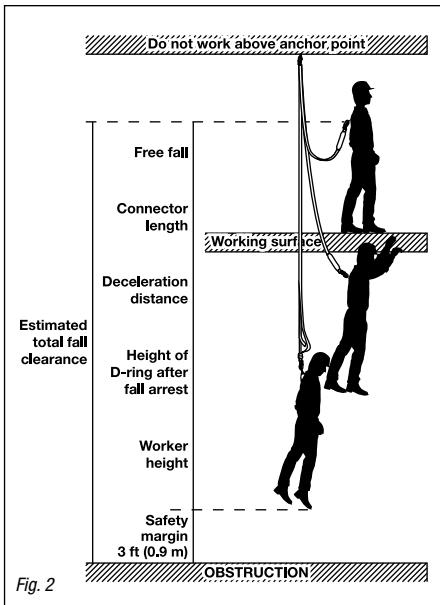

Fig. 2
- 3.2.3 Every anchorage point must be selected with care. The anchorage point location, in combination with the lanyard, should never permit a free fall of more than 1.8 m (6 ft.) (*Figure 2*). Consult local, state, federal and provincial regulations as some jurisdictions require a maximum free fall distance less than 1.8 m (6 ft.). Always check for obstructions below the work area to make sure that the
- 3.3.3 There must be sufficient clearance beneath the working area or potential fall path to arrest the fall prior to striking any obstruction or level below. Ensure to incorporate a deceleration distance as per *Figure 2* in the calculation of the estimated total fall distance
- 3.3.5 Ensure to incorporate all deceleration distances as per *Figure 2* in the calculation of the estimated total fall distance.